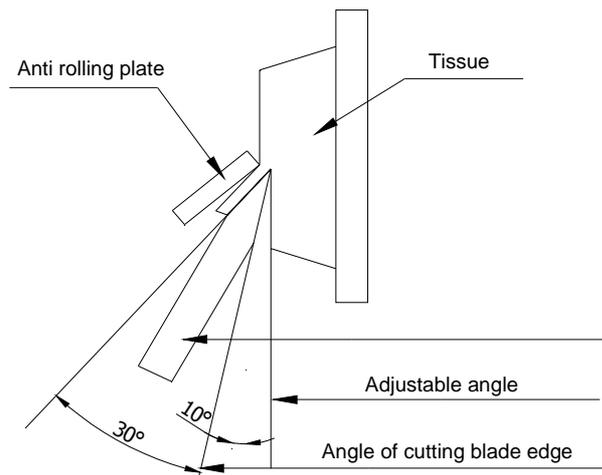

Fig 8
2. Adjust the anti rolling plate angle with the blade. (Fig 8)